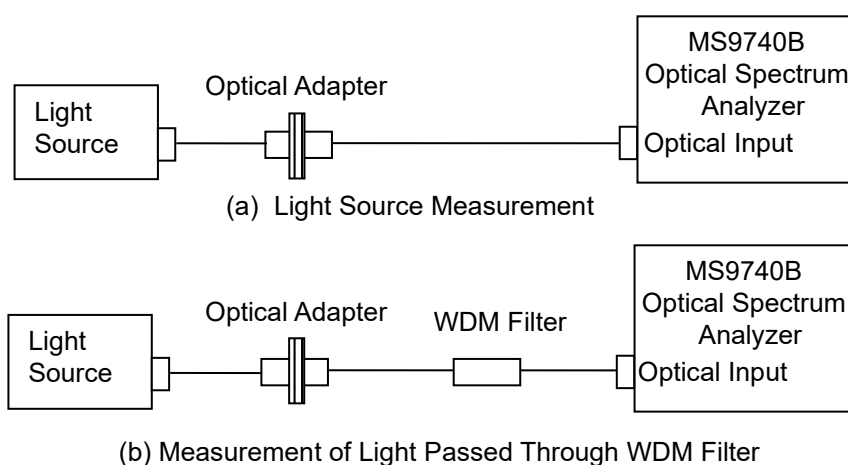

Figure 5.9.4-1 Measuring System for the WDM Filter
2. Connect two optical fiber cords and an optical adapter, as shown in Figure 5.9.4-1 (a).
7. Connect the WDM filter as shown in Figure 5.9.4-1 (b).